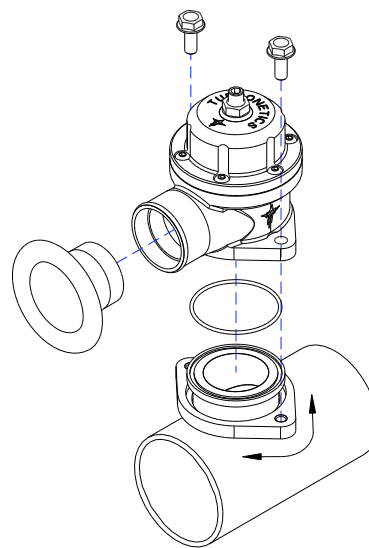

Figure 4
4. Install the o-ring seal in the pocket on top of the weld tube, using a small amount of silicone grease to keep it in place during assembly. Rotate the mounting flange to your desired position, and install the **Raptor Valve** re-using the supplied hex bolts per Figure 4.